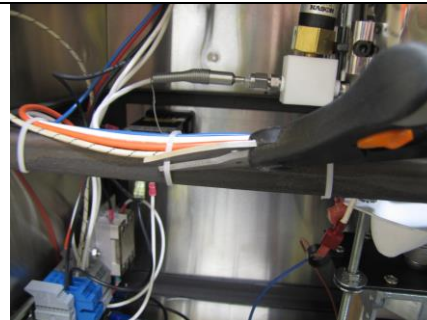

Figure 7
4. Carefully cut the three cable ties that hold the wires to the lateral steel brace as shown in Figure 7. Use caution to avoid any damage to the wiring or wire insulation. Follow the second wire from the heating band to the terminal block on the din rail. This should be the first gray terminal block adjacent to the blue terminal blocks.